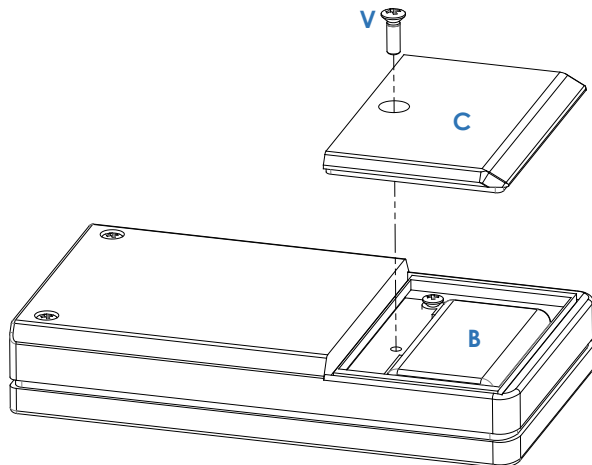

Fig.1b
If you need to replace a flat battery (B), undo the screw (V) to remove the cover (C) on the battery compartment (fig.1b).